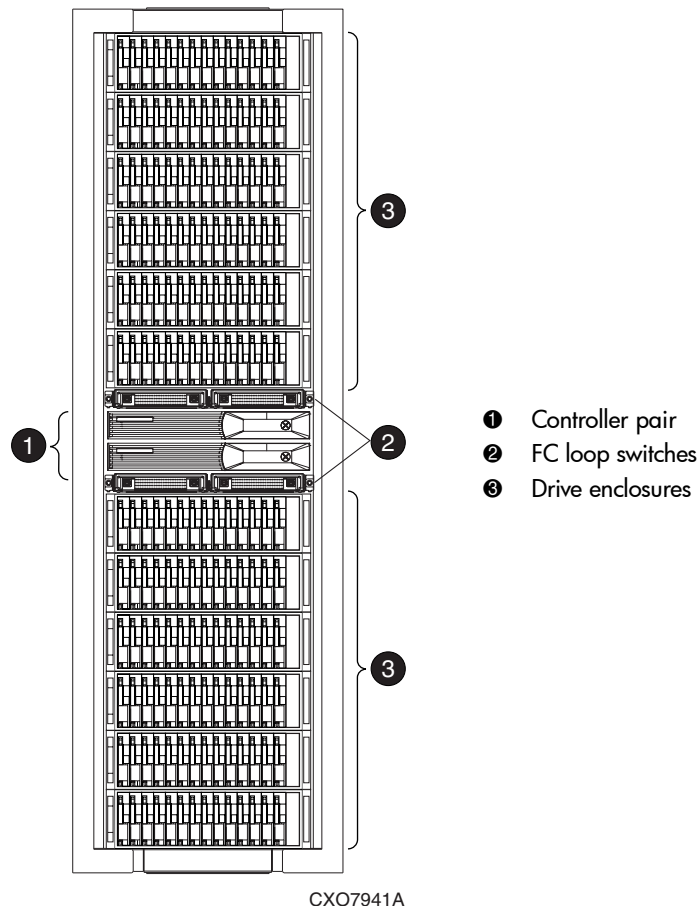

Figure 57: Basic storage system hardware components in a 41U rack
Physically, the Enterprise Virtual Array consists of a pair of controllers and an array of disk drives. The basic physical components are shown in Figure 57. The disk drives connect to drive enclosures, which plug into Fibre Channel (FC) loop switches. The controller pair is cabled to the FC loop switches. A backplane in the drive enclosures distributes commands and data to the drives.